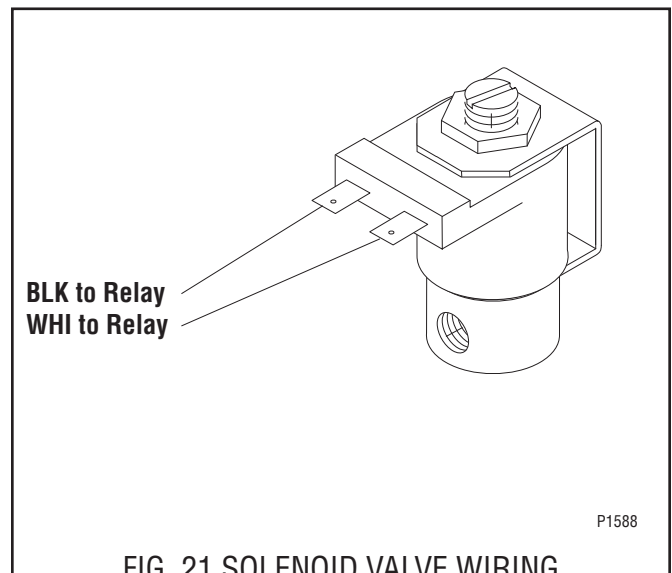

FIG. 21 SOLENOID VALVE WIRING
11. Refer to FIG. 21 when reconnecting the wires.